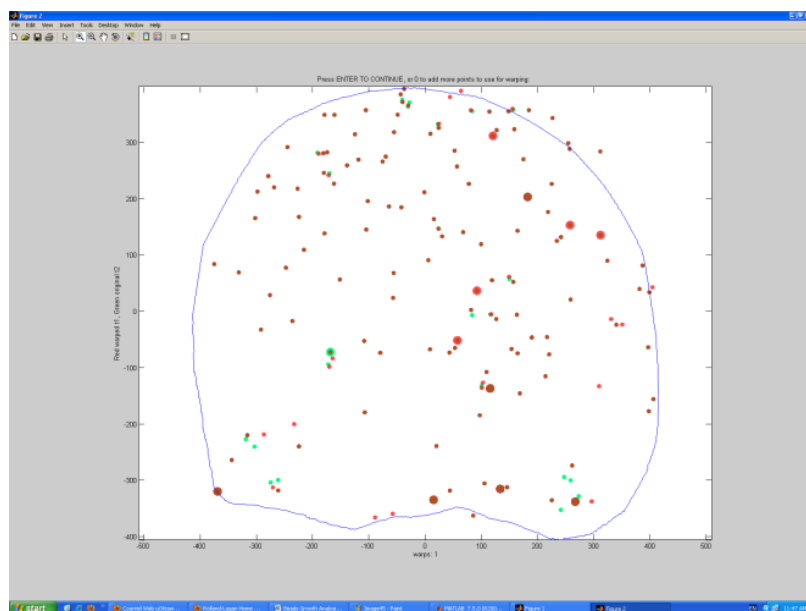

Figure 18. Automatic warping of beads
6. The program will use the matches generate to warp the beads from one time point (green) to the next (red) on one figure. The colours are somewhat transparent, so overlapping beads will appear brown (Figure 18).